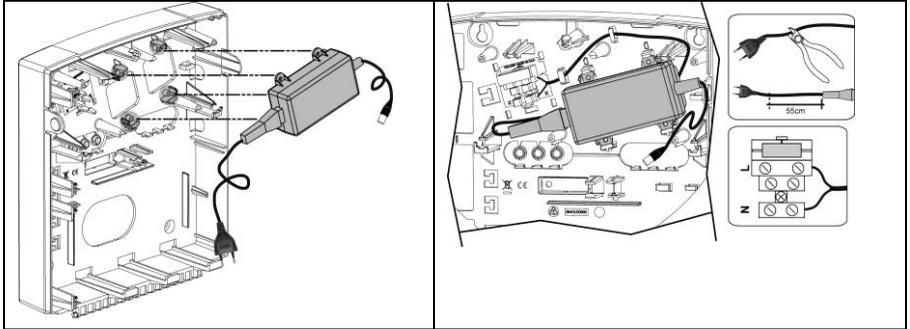

Figure 2-3 Placing the AC adapter w and w/o mains fuse
1. Prepare the connection to the AC electrical outlet (or mains-fuse wiring) (see Figure 2-3):